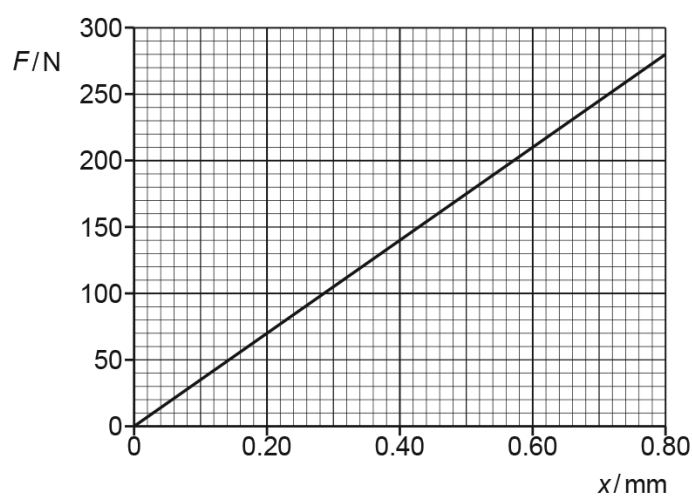

Fig. 3.2
- (c) The variation with extension x of the tension F in the wire in (b) is shown in Fig. 3.2.